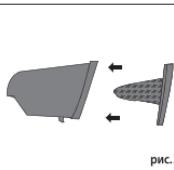

рис.3
- Remove the filter (14) from the dust bin (4) (Fig. 3).
- Turn over the dust bin (4) and remove dust and garbage from it.
- Clean the filter (14).
- Clean the dust bin (4), if the dust bin (4) is very dirty, wash it with water.
- Make sure that the dust bin (4) is dry and insert the filter (14) in it.
- Install the dust bin with the installed filter (14) until the lock (5) clicks and make sure that it is fixed properly.